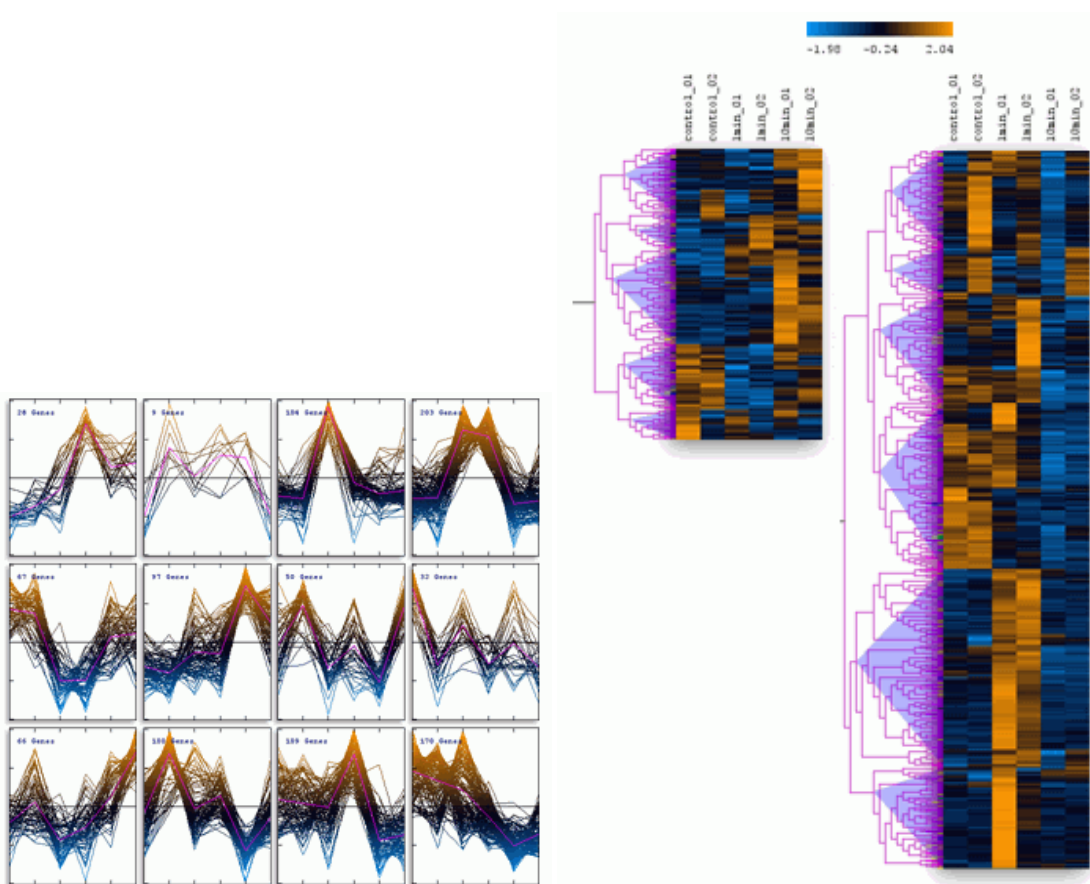

Figure 5.65.: Combined expression profiles in 12 clusters.
- A new section called Gene Tree Cut is created in the left hand side of the display (fig. 5.65 on page 129).